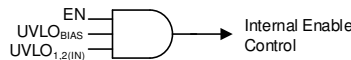

图 42. Simplified Turnon Control
Controlling when a single power supply turns on can be difficult in a power distribution network (PDN) because of the high power levels inherent in a PDN, and the variations between all of the supplies. As shown in 图 42 and 表 2, the LDO turnon and turnoff time is set by the enable circuit (EN) and undervoltage lockout circuits ( $UVLO_{1,2(IN)}$  and  $UVLO_{BIAS}$ ).